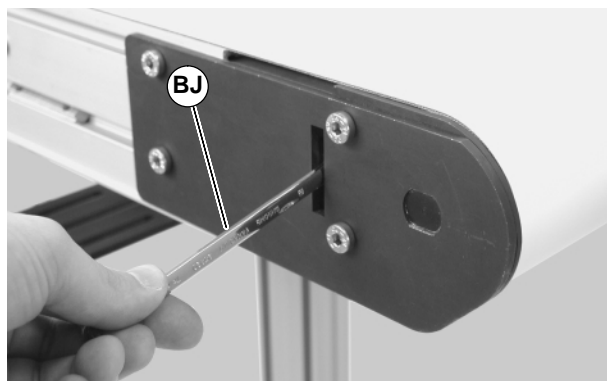
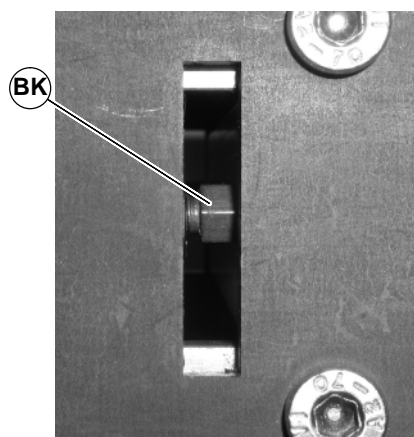

Figure 37
Figure 38
2. With the conveyor running, use wrench (BJ of Figure 37) to rotate the tracking screw (BK of Figure 38) in small increments until the belt tracks in the center of the conveyor.